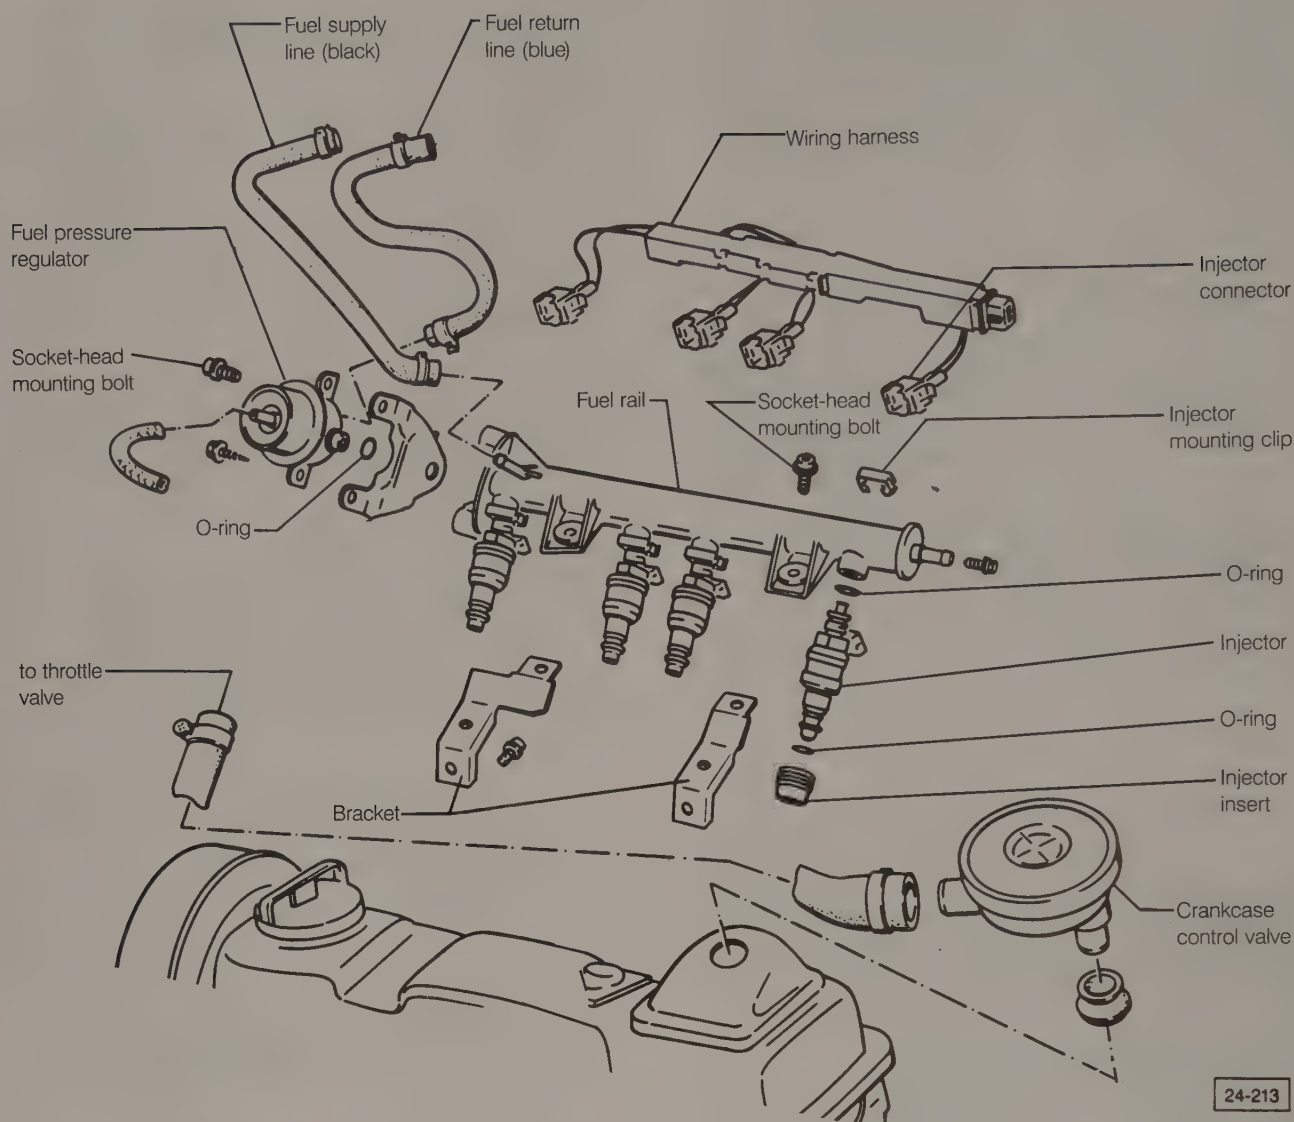

Fig. 4-36. Exploded view of Digifant II fuel rail and fuel injector mounting components.
4. Remove the vacuum hose and the blue fuel return hose from the fuel pressure regulator. See Fig. 4-36.